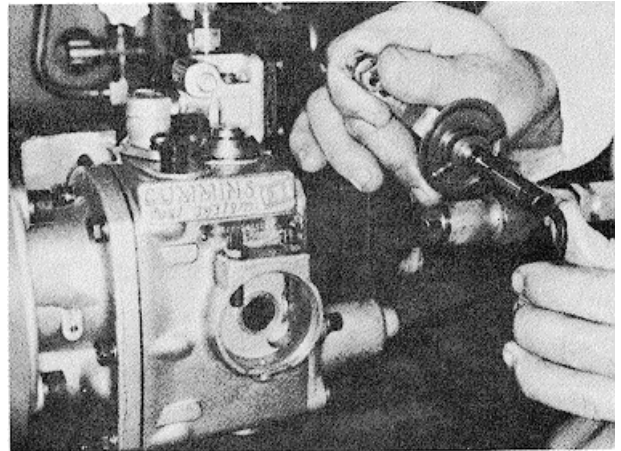

Fig. 5-1-11, F5104. Shim throttle restriction plunger
1. Remove throttle lever cover snap ring and pull shaft from housing. Inspect restriction plunger to be certain hole is shimmed completely open. Fig. 5-1-11. This is not necessary if calibration is being checked as a trouble shooting step. Replace shaft.